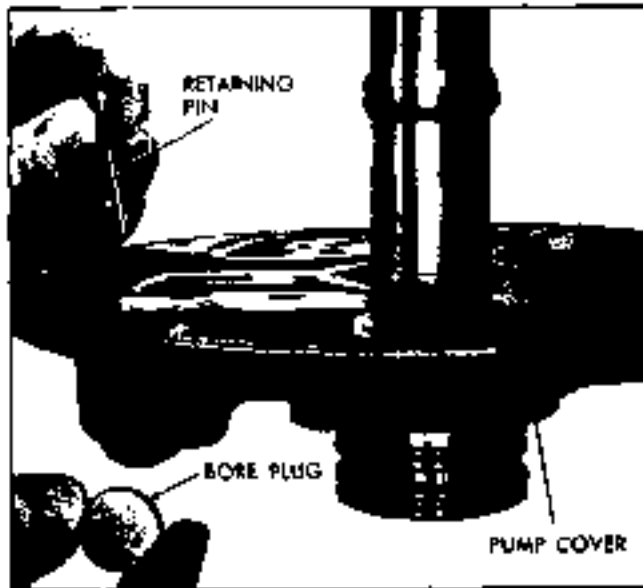

Fig. 7E-75 Installing Pressure Regulator Retaining Pin and Bore Plug
4. Check oil passages in pump body (Fig. 7E-78).